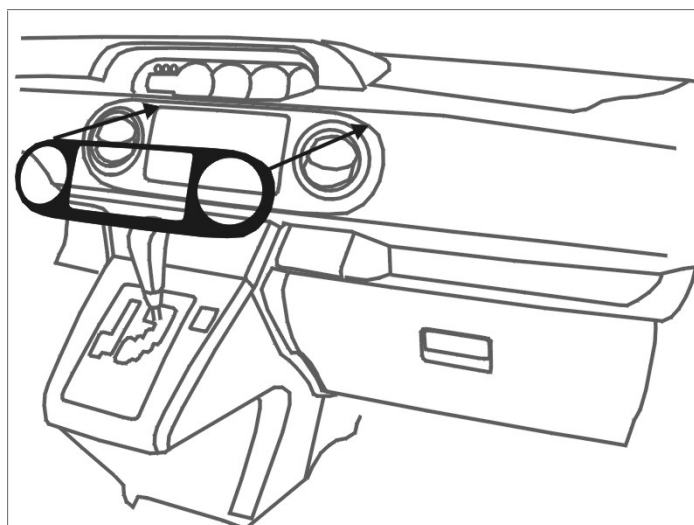

Fig. 1
- ⚠ (1) Align part uniformly to edge of factory component. Fig. 1
- (2) Gently touch part into position.
- (3) Edge of appliqué should be flush to edge of factory component, +/- 1.0mm.
- (4) Once positioned, press part firmly into place by applying finger pressure. Pressure is required for adequate bond to factory component.